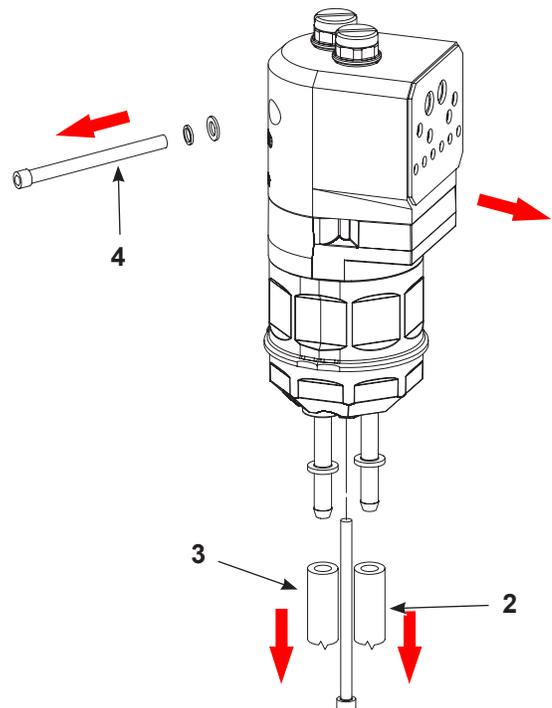
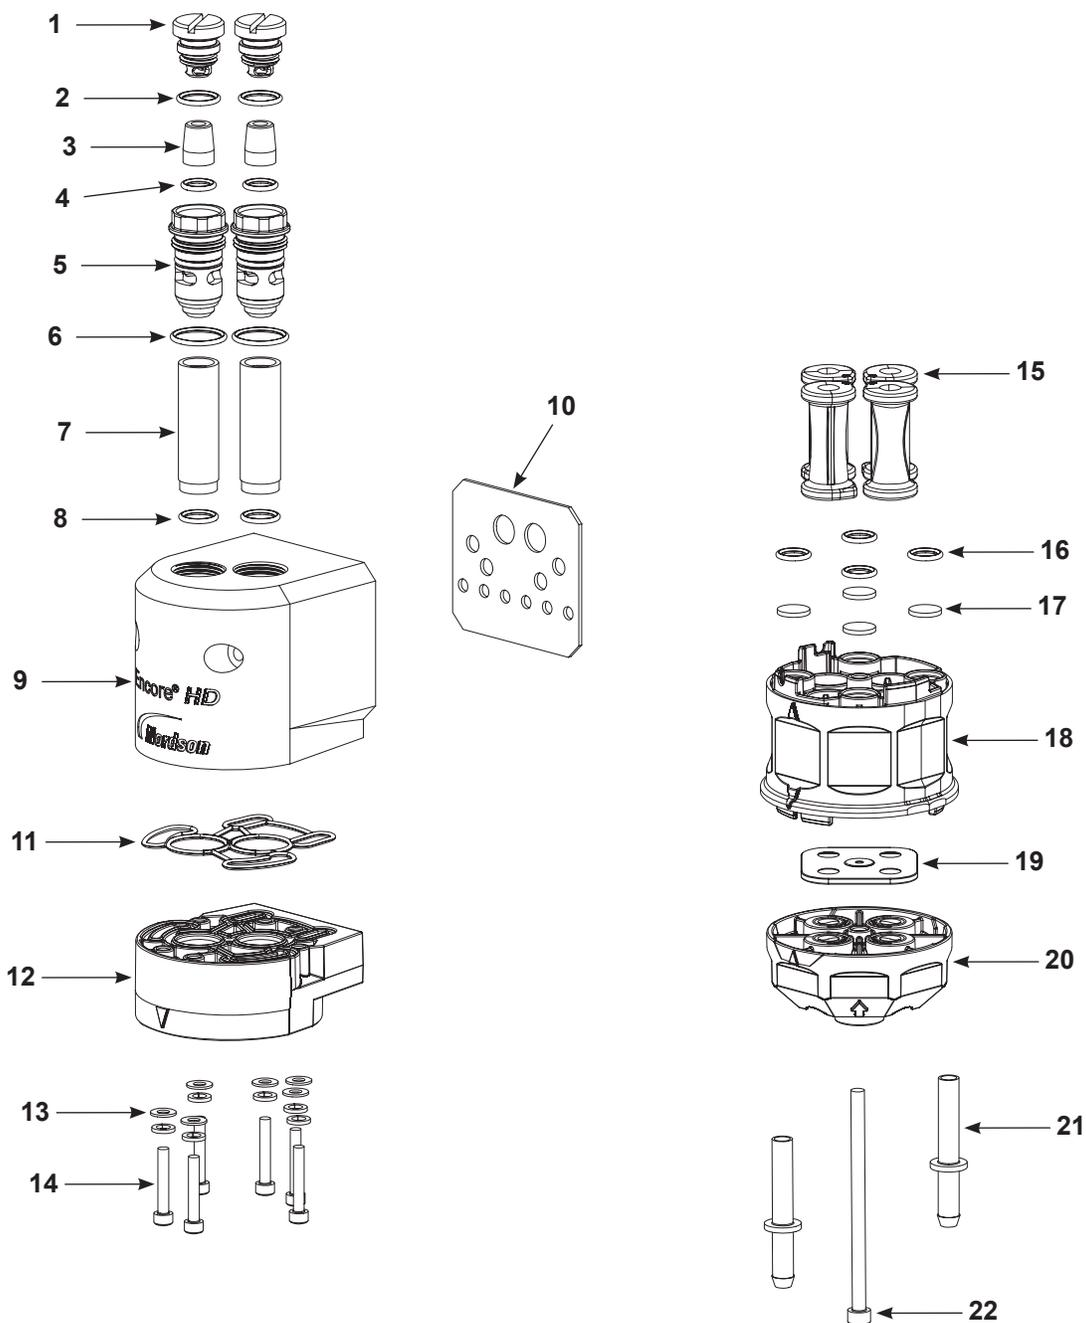

Figure 19 Standard Pump Disassemble Preparation
Figure 20 Pump Disassembly (Encore HD Shown)
NOTE: Any time the pump is disassembled, the Y block gasket (item 19 in Figure 20) must be replaced.
2. See Figure 19. Disconnect the inlet (2) and outlet powder tubing (3) from the bottom of the pump.
3. Remove the cabinet mounting hardware securing the pump to the pump panel (4) and move the pump to a clean work surface.
4. See Figure 20. Starting with the fluidizing tubes, disassemble the pump as shown. Gaskets that are glued on do not need to be removed unless they are damaged. Refer to *Replacing Pump Gasket* on page 23 if replacement is needed.